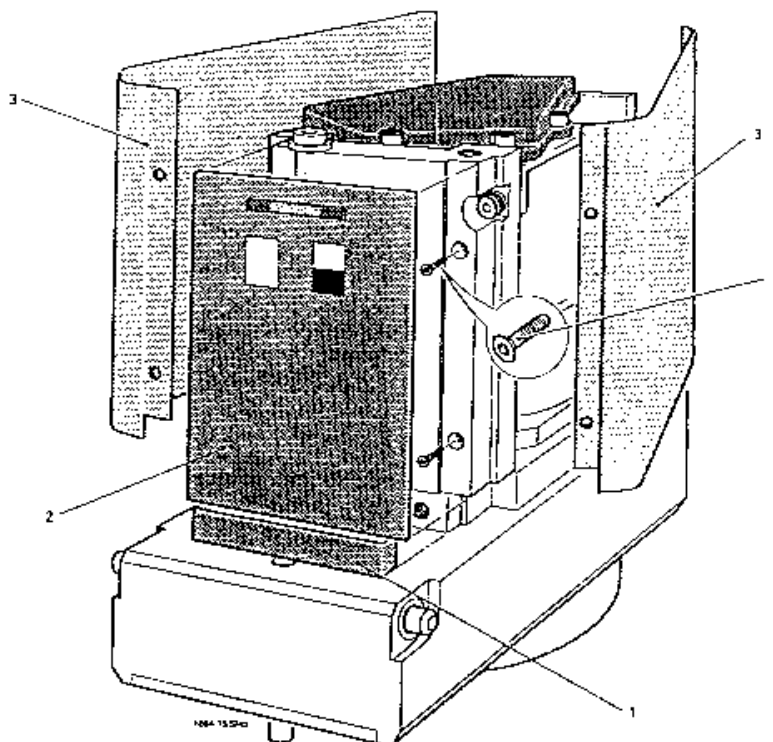

Fig. 10.14 Transfer Manifold Covers
10.16 Transfer Manifold Covers (Fig. 10.14)